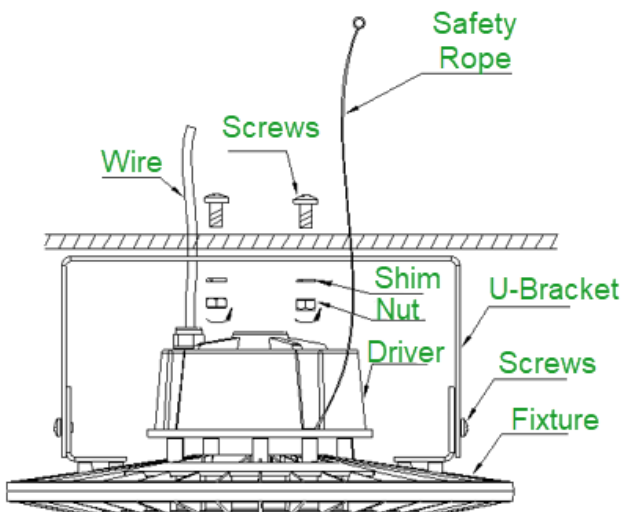

Fig. 1
1. **U-BRACKET MOUNTING:** Follow mounting directions as in Fig. 1